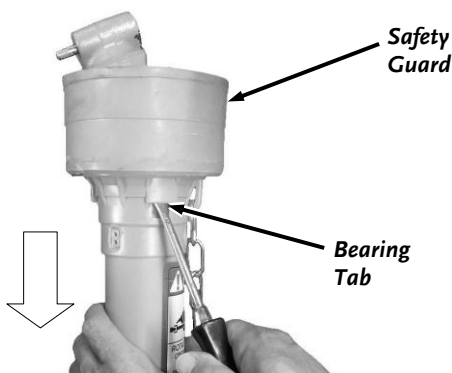

Figure 10
2. Separate the Guards from the PTO Shaft Halves by inserting a flat tip screwdriver into the Bearing Tab Slots as you pull down on the Safety Guard to release the Safety Guard from the Shaft (**Figure 10**).